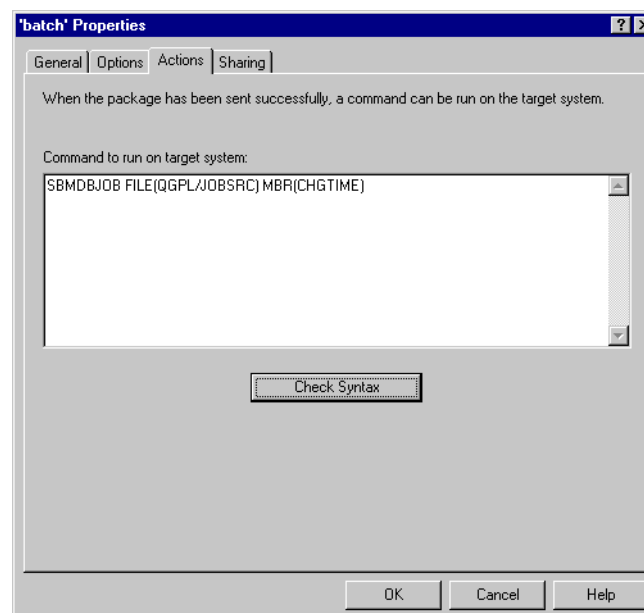

Figure 40. Command to submit the batch stream
6. Click on the **Actions** tab to enter a command that is submitted after the package is sent to the endpoint systems as shown in Figure 40.